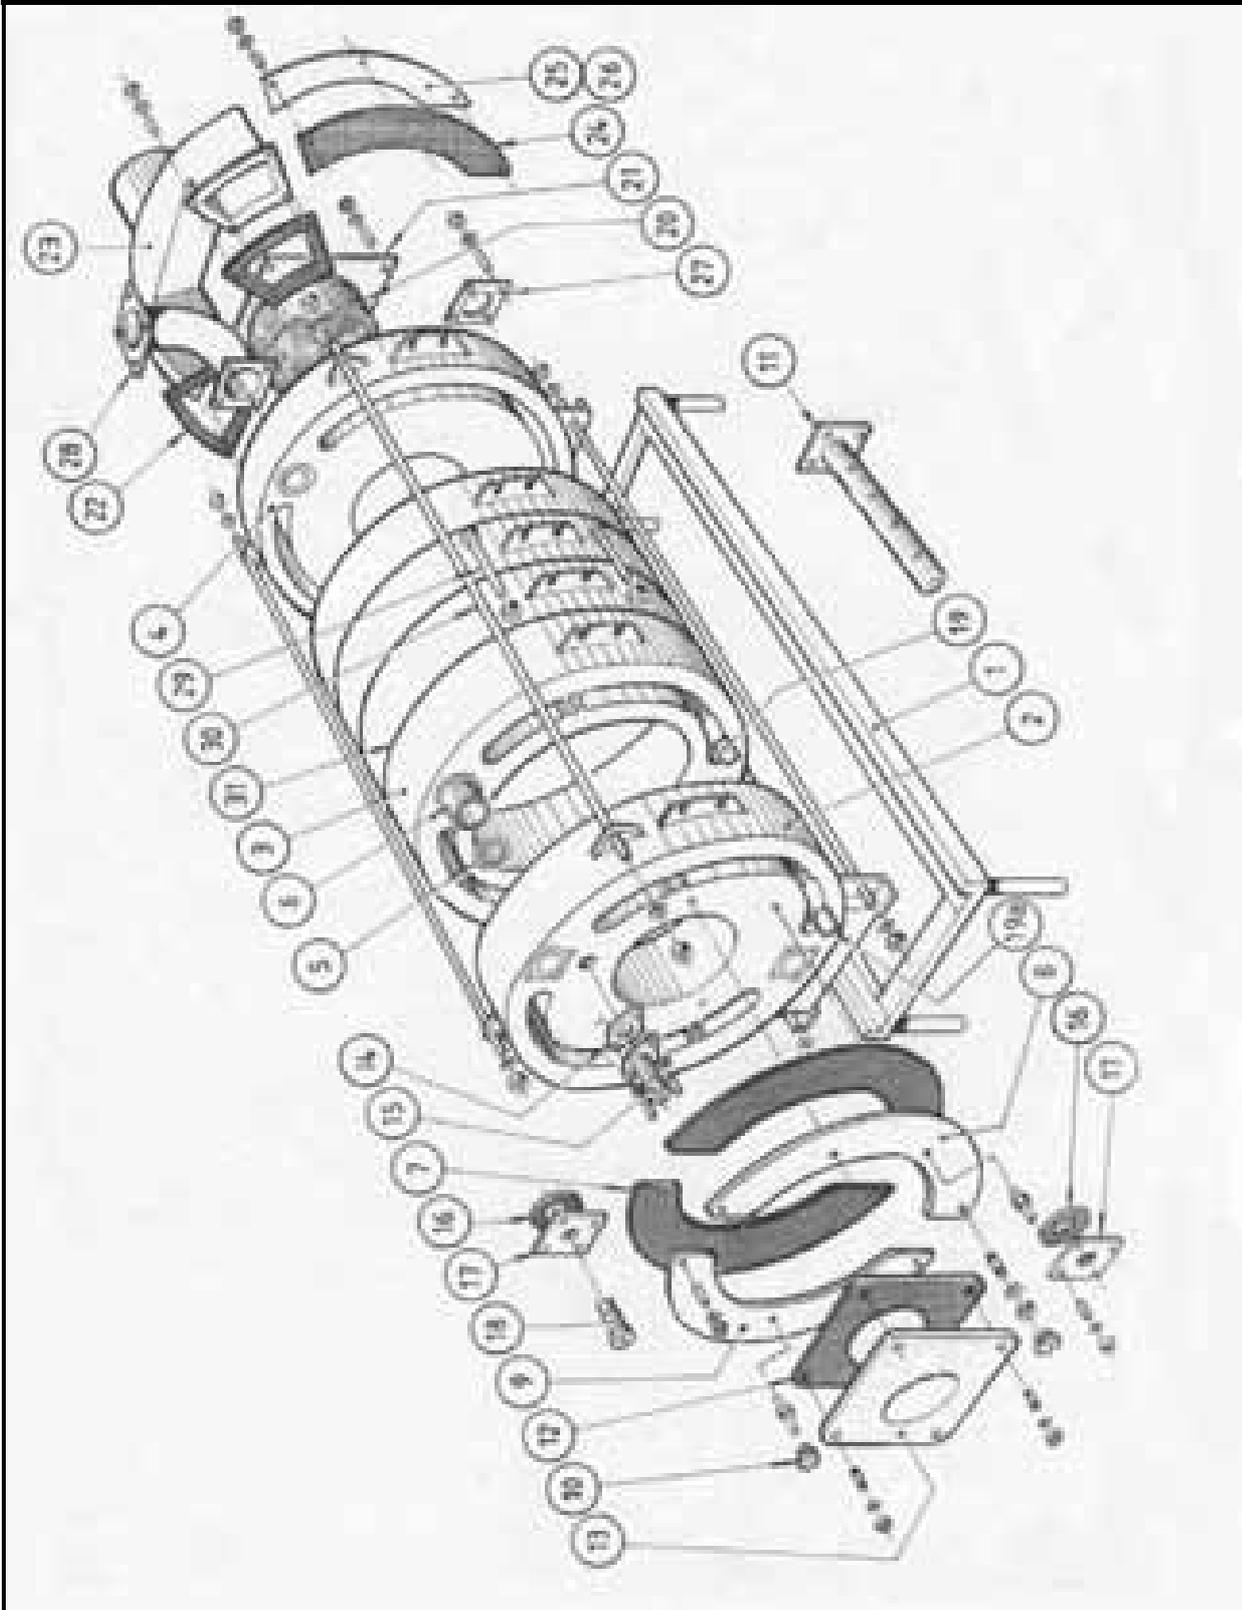

Figure 14.1 – Exploded View of Boiler
b. Remove heat exchanger access plates (11, 12 and 15 referring to Fig. 14.1), and corresponding insulation panels, from boiler front section.
c. Access to rear of heat exchanger flueways and combustion chamber can be obtained by removing rear insulation wrap, flue box (Fig. 14.1 item 31), cover plate (Fig 14.1 item 32), insulation and fire brick (Fig. 14.1 item 28) from rear of boiler.
The refractory fire brick (Fig. 14.1 item 28), located at the rear of the boiler, should be checked at least once every two years and replaced if necessary.
There are a number of components listed in Fig 14.1 which can be replaced simply and quickly by following the given procedure. In each case the operation of each replaced component must be checked by carrying out the appropriate part of the commissioning procedure. See **Section 11.0: COMMISSIONING & TESTING**.
14.1 Boiler Spares (refer to Fig. 14.1)